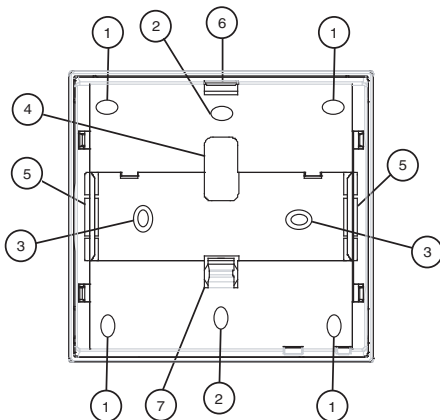

Fig. 2 LDU with surface mount (back view).
1. Break off tabs 5 (see Figure 2). This is the path of the rail.
2. Break off tab 6 (see Figure 2). This is the wire exit.
4. Slide DIN rail into rear panel using clip 7 (see Figure 2).
3. Place power and communications cables through opening 4 in the rear of the flush mount housing (see Figure 2) and mount the housing using 4 screws.